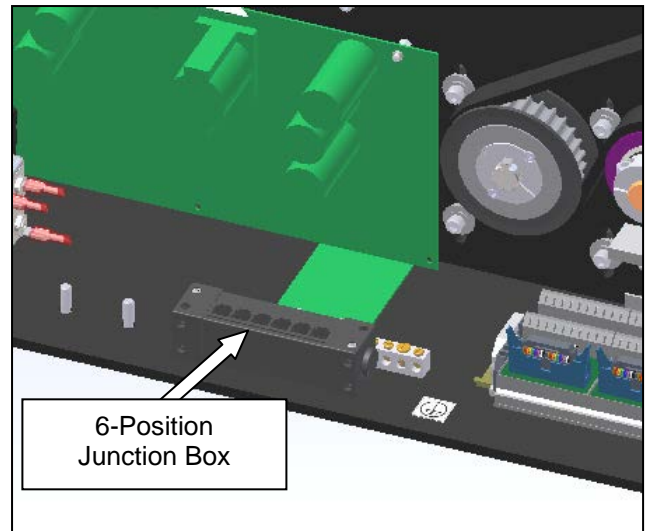

Figure 3-367. Stripper Plate Sensor Plugs
3. Locate the 6-position junction box, and unplug the connector in port 1 for the "Near Home" Sensor and/or port 2 for the "Home Sensor". This should free the sensor completely from the machine. Gently pull the wire, being careful of other wires still in the machine (Figure 3-367).